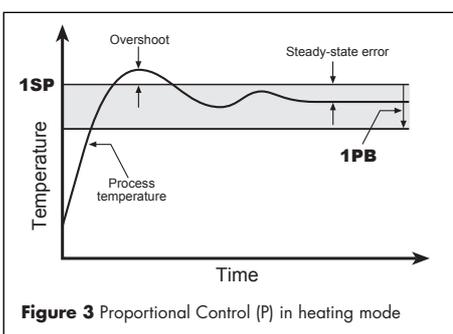

Figure 3 Proportional Control (P) in heating mode
4.3. PID CONTROL. In the PID mode the output is ON for a fraction of the cycle time **1CT**. The cycle time characterises the dynamics of the system to be controlled and influences the accuracy of the control: the higher the system speed of response the shorter the cycle time to obtain greater temperature stability and less sensitivity to variations in load. Assign a negative value to **1PB** to make channel 1 operate in the heating mode (see Figure 3) and a positive value for control in the cooling mode. With **1PB=0** the output is permanently cut out.